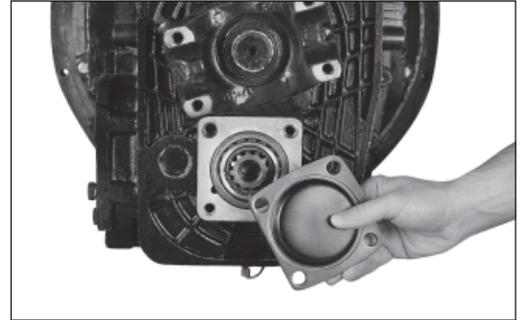

Figure 1
2. Remove extended countershaft bearing cover and gasket from transmission. Clean aperture surface and threaded holes. (See Figure 1)